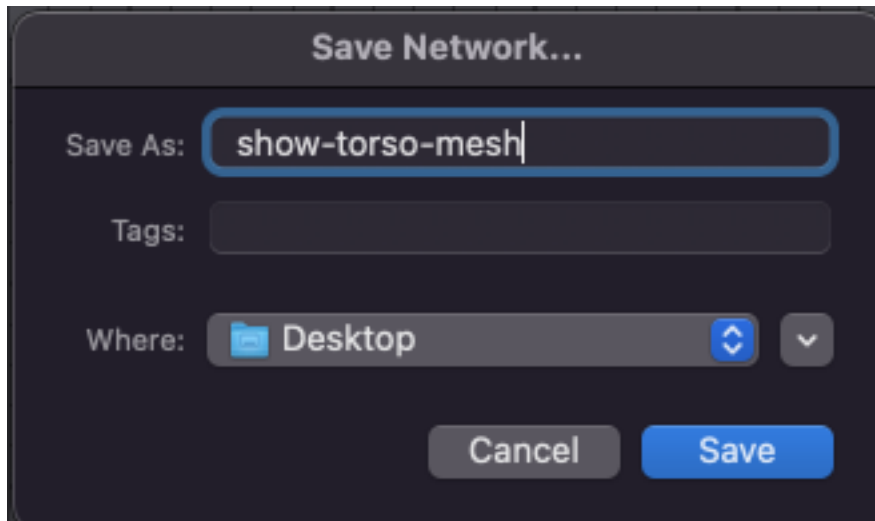

Fig. 3.12: “Save As” GUI
3. For this example, store the net as SCIRun/src/nets/show-torso-mesh.srn5, as in Fig. 3.12. The .srn5 suffix is used for SCIRun network files